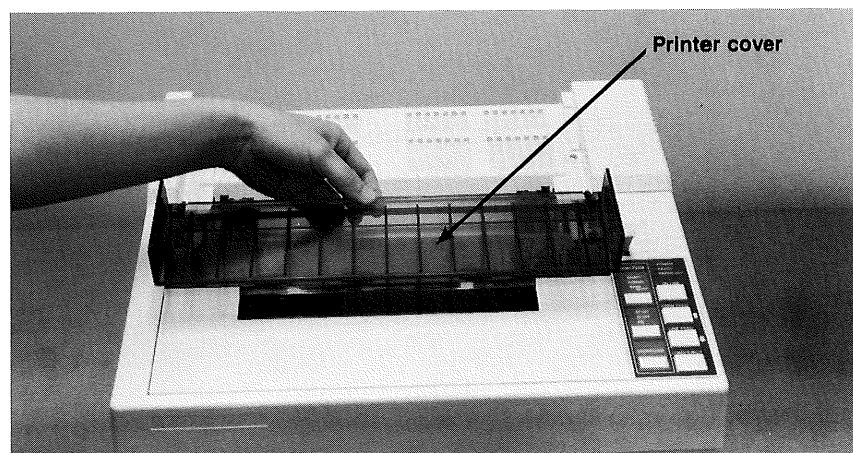

Figure A2.
2. Fold the back of the printer cover forward. Lift up on the cover to remove. See Figure A2.